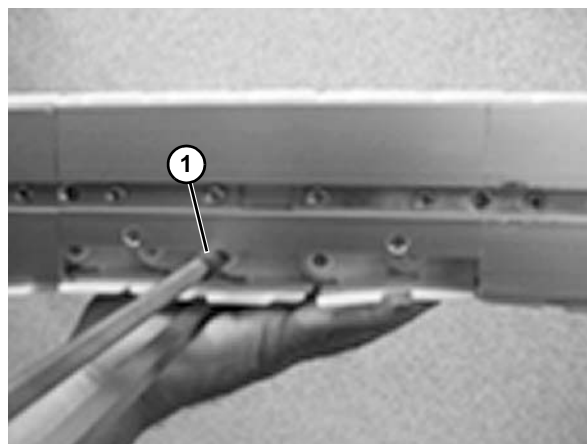

Figure 61
4. Remove excess links and use the chain tool (**Figure 61, item 1**) to put the chain back together again.